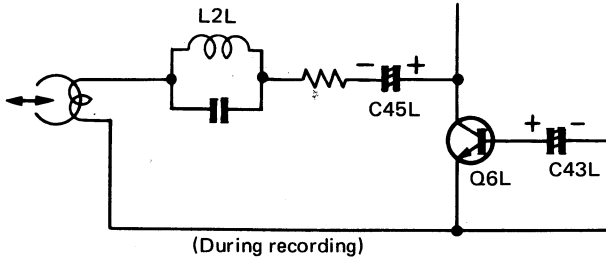
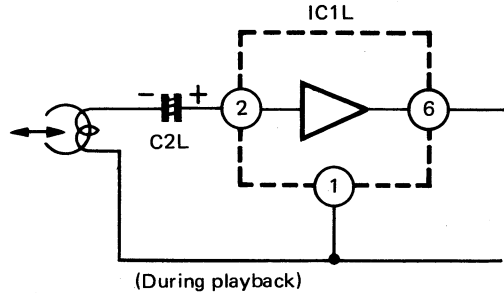

Fig. 8
Fig. 9
shown in Fig. 8 is obtained.
When the unit is set to the PLAY mode, terminal ⑦ of IC1 is set to "Low" level and Q2L is turned OFF. At the same time, terminal ⑥ of IC3 is set to "Low" level to turn reed relay (RL1) ON and the equivalent circuit shown in Fig. 9 is obtained.
The polarity of the head during playback and recording are reversed as shown in Fig. 8 and Fig. 9.